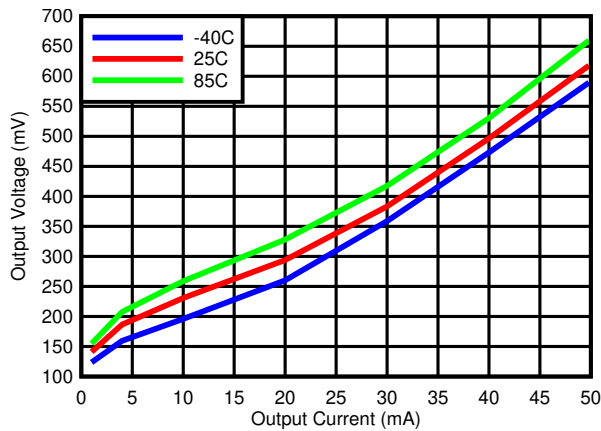
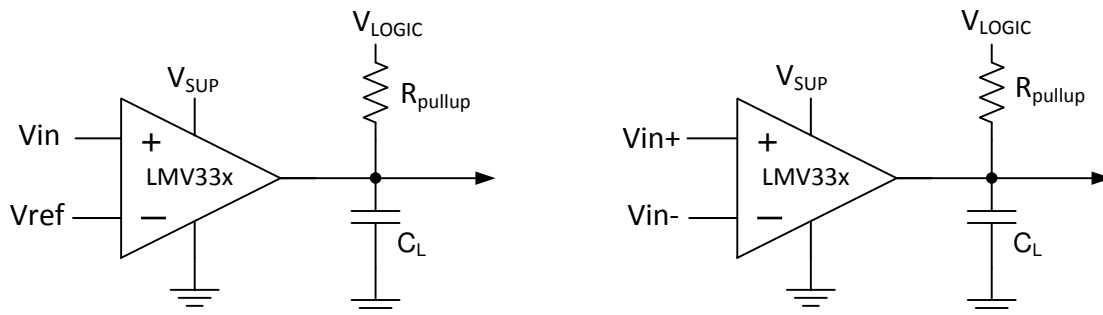

图 5-3. Output Voltage vs Output Current
图 7-1. Typical Application Schematic
The output consists of an open drain NPN (pull-down or low side) transistor. The output NPN sinks current when the negative input voltage is higher than the positive input voltage and the offset voltage. The  $V_{OL}$  is resistive and scales with the output current. Please see 图 5-3 for  $V_{OL}$  values with respect to the output current.
Output current is determined by the pull-up resistance ( $R_{pullup}$ ) and Vlogic voltage, refer to 图 7-1. The output current produces a output low voltage ( $V_{OL}$ ) from the comparator. In which  $V_{OL}$  is proportional to the output current. Use 图 5-3 to determine  $V_{OL}$  based on the output current.
- $R_{CE}$  can be determine by taking the slope of 图 5-3 in it's linear region at the desired temperature, or by dividing the  $V_{OL}$  by  $I_{out}$